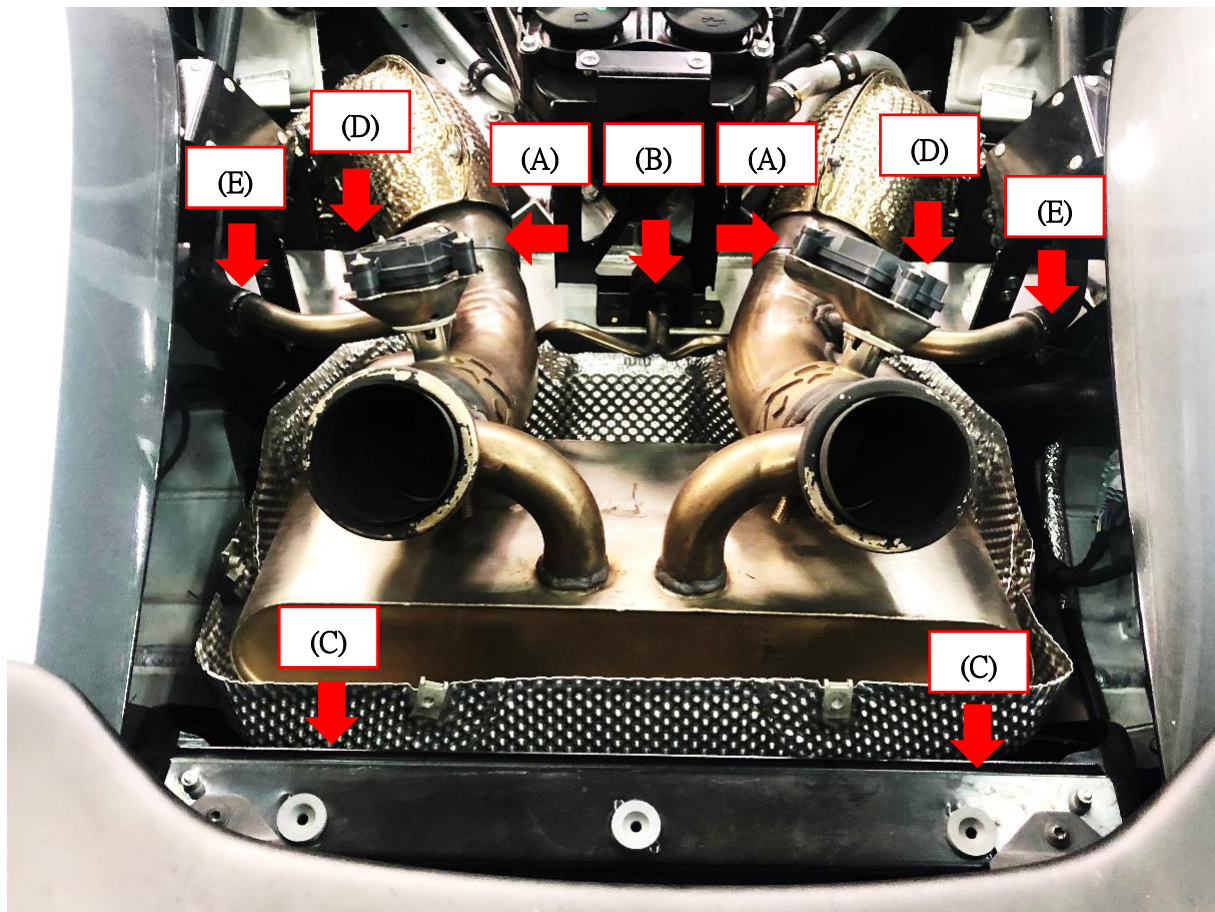

Fig. 4
4. Remove the clamps on the entryway of muffler. (Fig 4-A)
5. Remove the bush on the entryway of the muffler. (Fig 4-B)
6. Remove the bush on the gateway of the muffler. (Fig 4-C)
7. Disconnect the electric motor plugs. (Fig 4-D)
8. Remove the rubber tube clamps. (Fig 4-E)